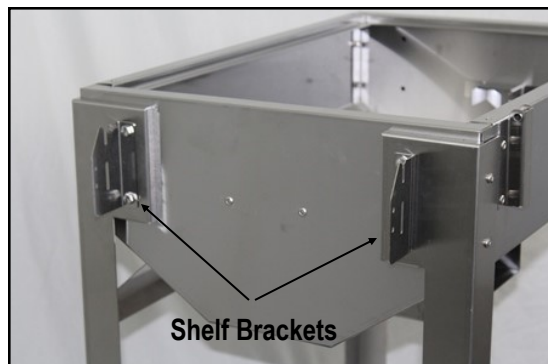

Fig. 10
1. Attach brackets to grill using 1/4-20 x 3/4" Hex Head Bolts and 1/4-20 Kep Nuts to each side of your grill as shown in (Fig. 10) Use (2) bolts and kep nuts per bracket.